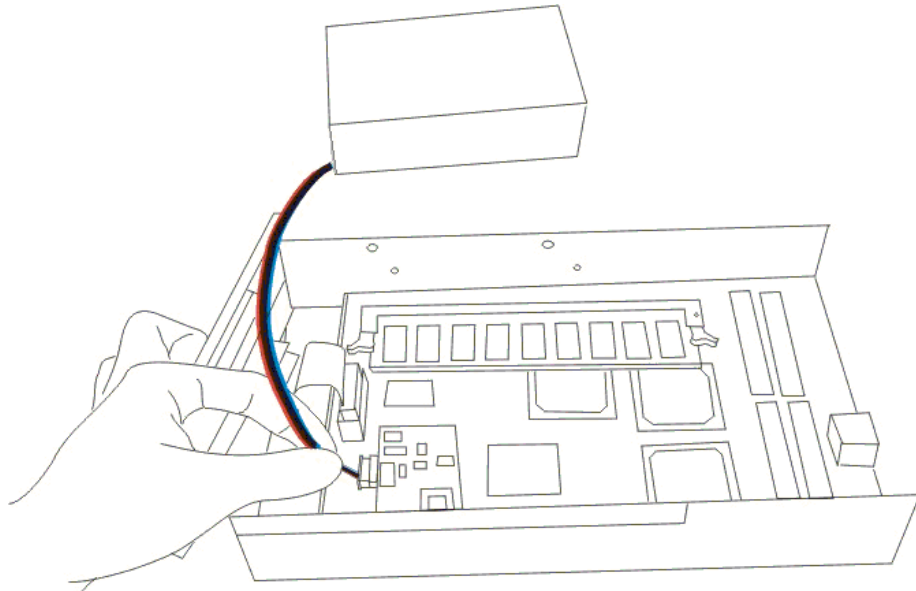
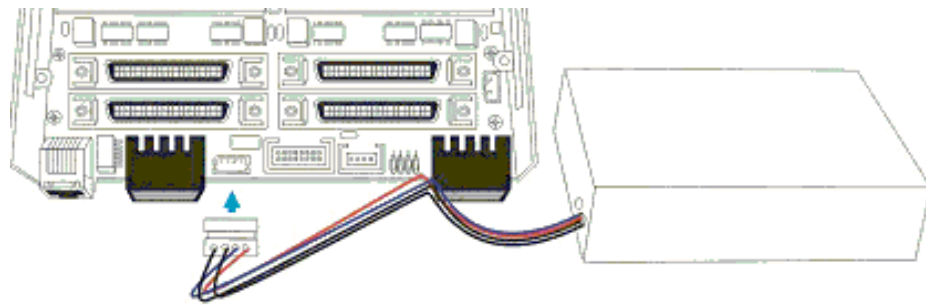

Figure 2-5: Connect the BBU to the BBU Charger Board
Figure 2-6: Connect the BBU to the Connector at the Back of the Controller Board
Step 4. *Connect the BBU cable.* The BBU cable can be connected to a white, 4-pin header on either the BBU charger board (see *Figure 2-5*) or at the back of the controller board (labeled J4) (see *Figure 2-6*). If the BBU cable is going to be connected to the charger board, the connections should be made now. If the BBU is going to be connected to the connector at the back of the board, the connection can be made now or after the chassis top cover has been replaced.